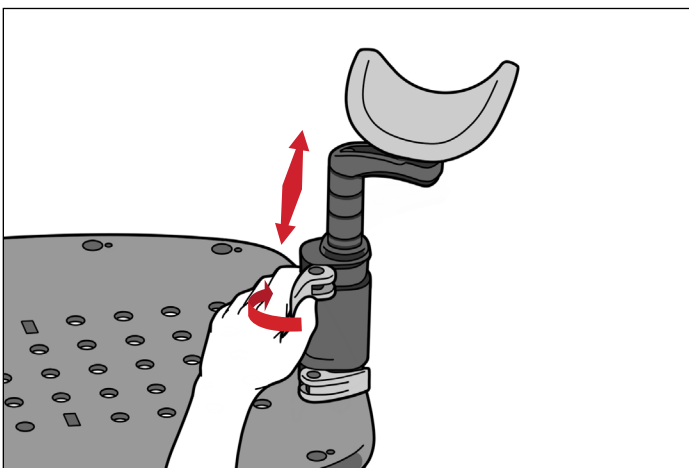
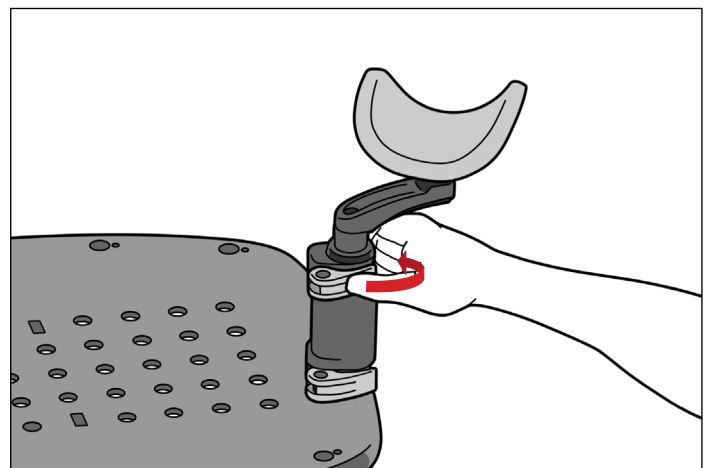

FIG. 17
FIG. 18
3. To raise or lower the cup of the Wrist Support, open the upper lever. Raise, lower, or rotate the cup into desired position and close the upper lever. (Fig. 17 and Fig. 18)